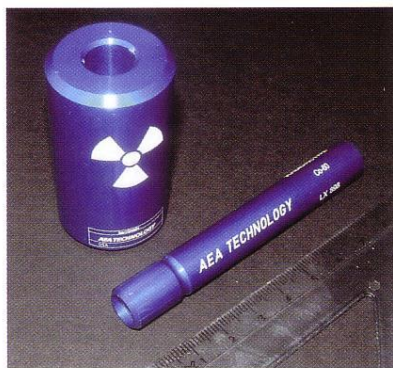

Figure 8 Sealed educational source made by AEA Technology.
- removal, in the short term, of aged stock and its replacement with appropriate new stock of modern design (Fig. 8), and